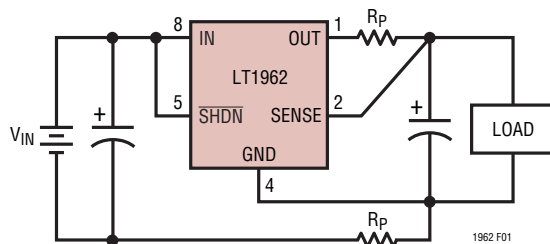

Figure 1. Kelvin Sense Connection
**SENSE (Pin 2):** Sense. For fixed voltage versions of the LT1962 (LT1962-1.5/LT1962-1.8/LT1962-2.5/LT1962-3/LT1962-3.3/LT1962-5), the SENSE pin is the input to the error amplifier. Optimum regulation will be obtained at the point where the SENSE pin is connected to the OUT pin of the regulator. In critical applications, small voltage drops are caused by the resistance ( $R_P$ ) of PC traces between the regulator and the load. These may be eliminated by connecting the SENSE pin to the output at the load as shown in Figure 1 (Kelvin Sense Connection). Note that the voltage drop across the external PC traces will add to the dropout voltage of the regulator. The SENSE pin bias current is 10 $\mu$ A at the nominal rated output voltage. The SENSE pin can be pulled below ground (as in a dual supply system where the regulator load is returned to a negative supply) and still allow the device to start and operate.